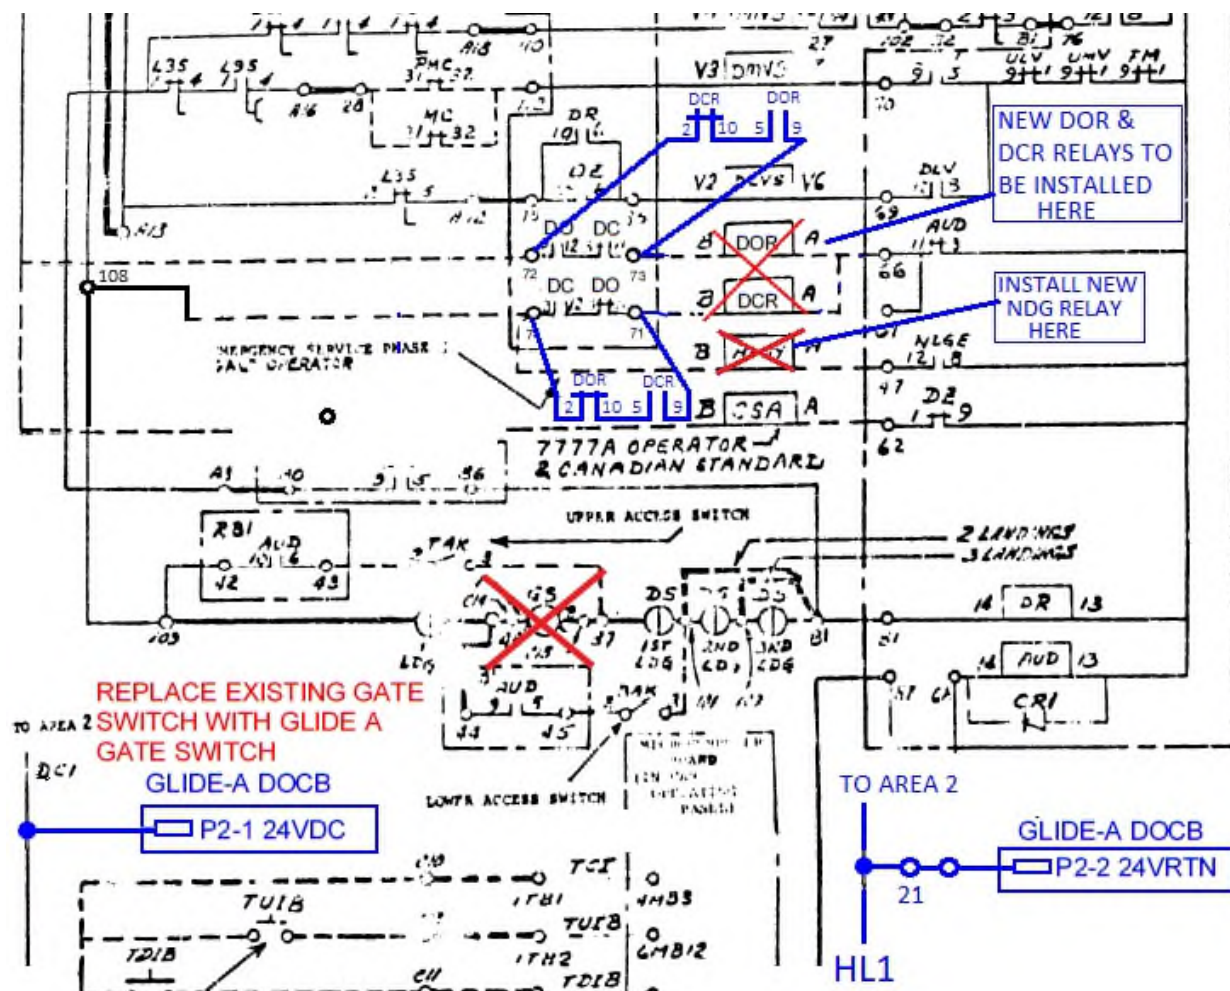

Figure 12: Area 3 of W/D 8-1S7900AG
- **Area 3:** Replacement of existing gate switch with Glide A gate switch, reuse of door signals and installation of new relays for DOR, DCR and NDG. 24VDC supply for Glide A Figure 12